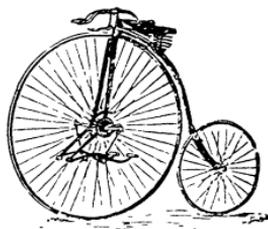

Fig 17.—The Facile (high safety).
*Dwarf and Safety Bicycles* may be divided into three sub-classes: (a) *Safeties*, a generic term, which covers all bicycles which aim at safety, whether high or low; (b) *Dwarfs*, which can be applied to small (or "pony") machines, not of course juvenile Ordinaries; but is generally understood to refer to front-driving machines, such as the Kangaroo, Sun and Planet, etc., *i.e.* machines dwarfed, but not necessarily safe; (c) *Dwarf-Safeties*—otherwise the present popular pet—the rear-driving dwarf-Safety, to give it its full and correct title, but the common wrong has converted its cognomen into simply SAFETY, a term that would, when applied to a race, permit the rider of a 60-inch 'Xtra or Devon, etc., to enter, although no one is likely to handicap himself by so doing. The best known of all the dwarf machines, the Facile (see Fig. 17), partakes of all three; although not a rear-driver (it is also made in this pattern however), it is practically as safe as a dwarf-Safety. One of *the* secrets of its success is the very close tread of the pedals. We have, further on, explained the importance of this. The high Safeties are now seldom seen; for instance, at the 1890 Stanley Show, out of a total exhibit of 1238 bicycles, 1081 were dwarf-Safeties, and only 11 high-Safeties. So, with a reference to the 'Xtra, illustrated on page 37, and the dwarf or Kangaroo, now extinct, illustrated on page 46, we can pass on to a consideration of the most important mount of to-day, the